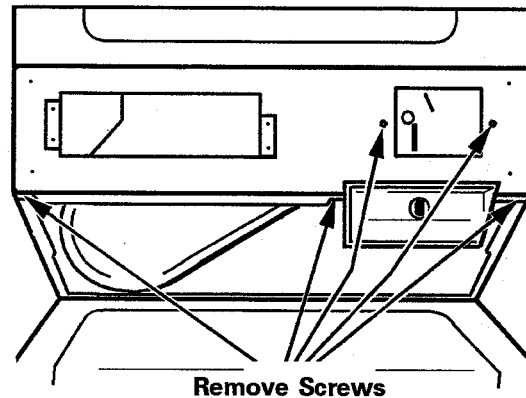

Figure 2-69
3. Remove three security torx screws and two pozi-drive screws securing the control panel, *see Figure 2-69.*